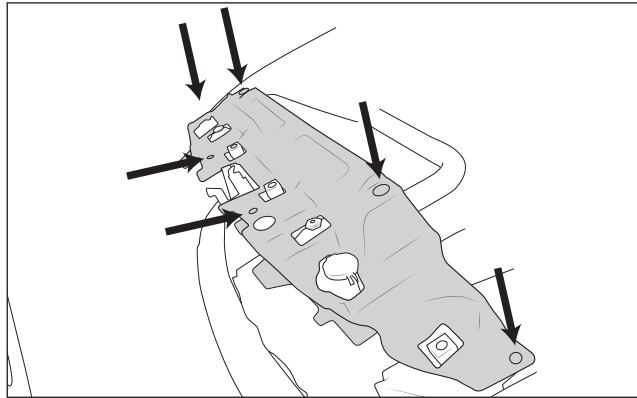

Figure 8
2. Remove the upper shroud by prying the six (6) plastic push pins out (Fig. 8).